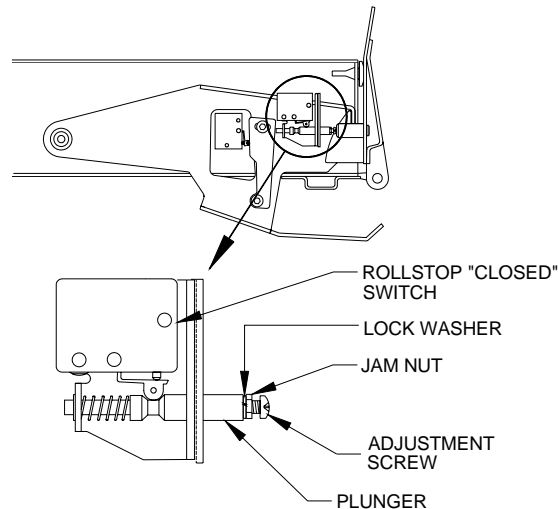

FIGURE 4-7: “CLOSED” SWITCH ADJUSTMENT
- 6) Refer to **Figure 4-7**. Adjust “Closed” switch by loosening jam-nut and turning adjustment screw that protrudes from end of plunger. The enlarged view shows plunger position when rollstop is open. The plunger should move to position shown in upper view when rollstop is closed. Adjust screw so that switch roller is on outside diameter of plunger when rollstop is closed. Retighten jam-nut.